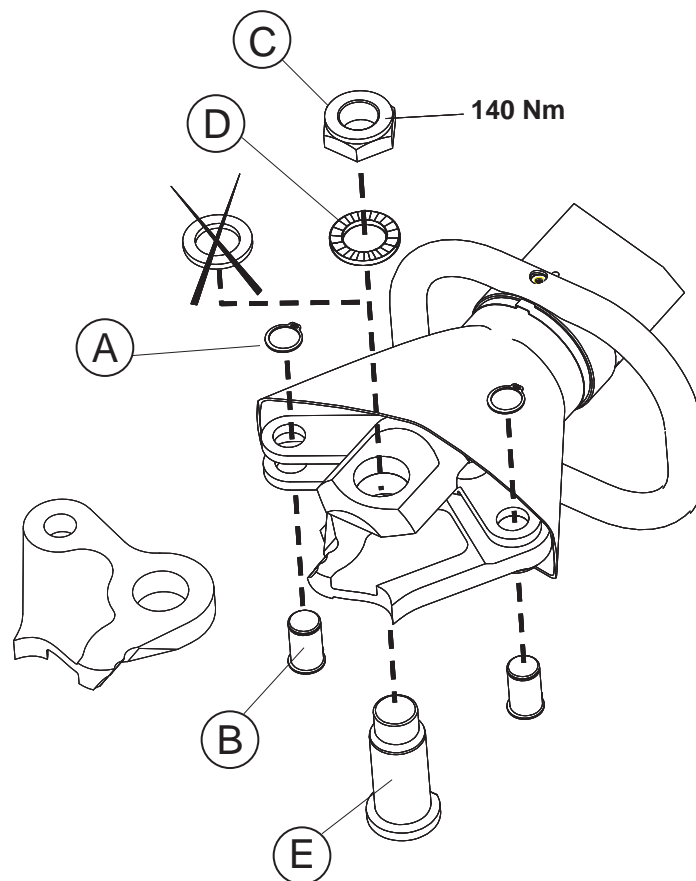

Fig. 6.
- Check the tightness of the nut on the centre bolt using a torque meter (Fig. 6).
Replacing the blades (Fig. 6)